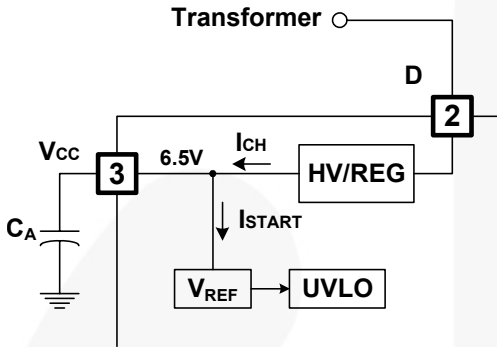
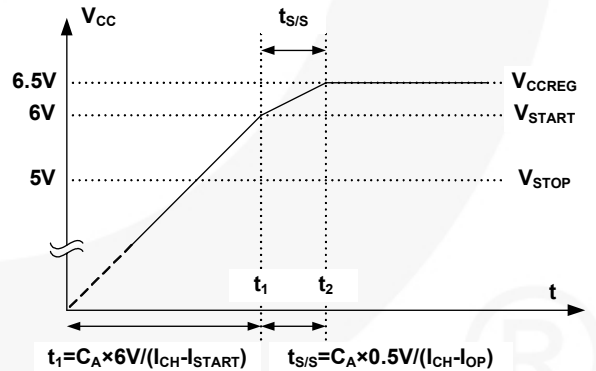

Figure 15. Startup Block
Figure 20. Soft-Start Function
**1. Startup and  $V_{CC}$  Regulation:** At startup, an internal high-voltage current source supplies the internal bias and charges the external capacitor ( $C_A$ ) connected to the  $V_{CC}$  pins, as illustrated in Figure 15. An internal high-voltage regulator (HV/REG) located between the Drain and  $V_{CC}$  pins regulates the  $V_{CC}$  to 6.5V and supplies operating current. Therefore, FSQ500N needs no auxiliary bias winding.
**4. Soft-Start:** The soft-start time is tuned by an external  $V_{CC}$  capacitor ( $C_A$ ), which increases PWM comparator non-inverting input voltage together with the senseFET current slowly after it starts. Before  $V_{CC}$  reaches  $V_{START}$ ,  $C_A$  is charged by the current  $I_{CH-I_{START}}$ , where  $I_{CH}$  and  $I_{START}$  are described in Figure 15. After  $V_{CC}$  reaches  $V_{START}$ , all internal blocks are activated, so that the current consuming inside IC becomes  $I_{OP}$ . Therefore,  $C_A$  is charged by the current  $I_{CH-I_{OP}}$ , which makes the increasing slope of  $V_{CC}$  become sluggish.  $V_{CC}$  is shifted by 6.0V negatively (it is performed in soft-start block in Figure 2), then  $V_{CC} - 6.0V$  is an input of one of the input terminals of the PWM comparator. The drain current follows  $V_{CC} - 6.0V$  instead of the  $V_{FB}^*$  because of the low-dominant feature of the PWM comparator. The soft-start time can be made long or short by selecting  $C_A$ , as described in Figure 20. During  $t_{S/S}$ ,  $I_{DELAY}$  is disabled to avoid unwanted OLP. Typically,  $t_{S/S}$  is around 4.6ms with 27 $\mu$ F of  $C_A$ .